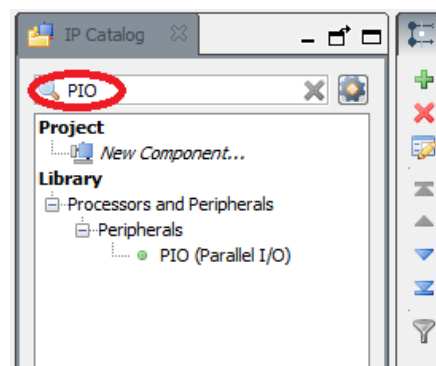

Figure 4.2.5.1
- Select **Finish** (as shown in Figure 4.2.5.2)